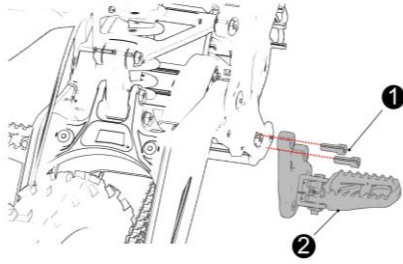

Fig 36
11.7 Dismount right pedal assembly (see Fig 36)